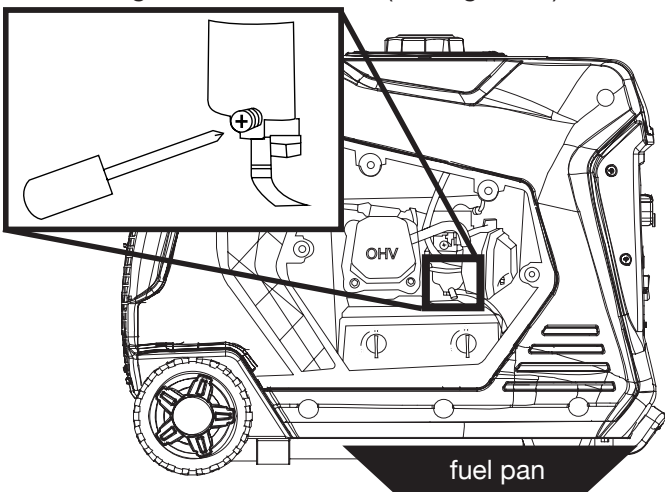

Figure 15: Loosen Float Bowl Screw
3. Loosen the float bowl drain screw until fuel is seen draining from the float bowl (see Figure 15).